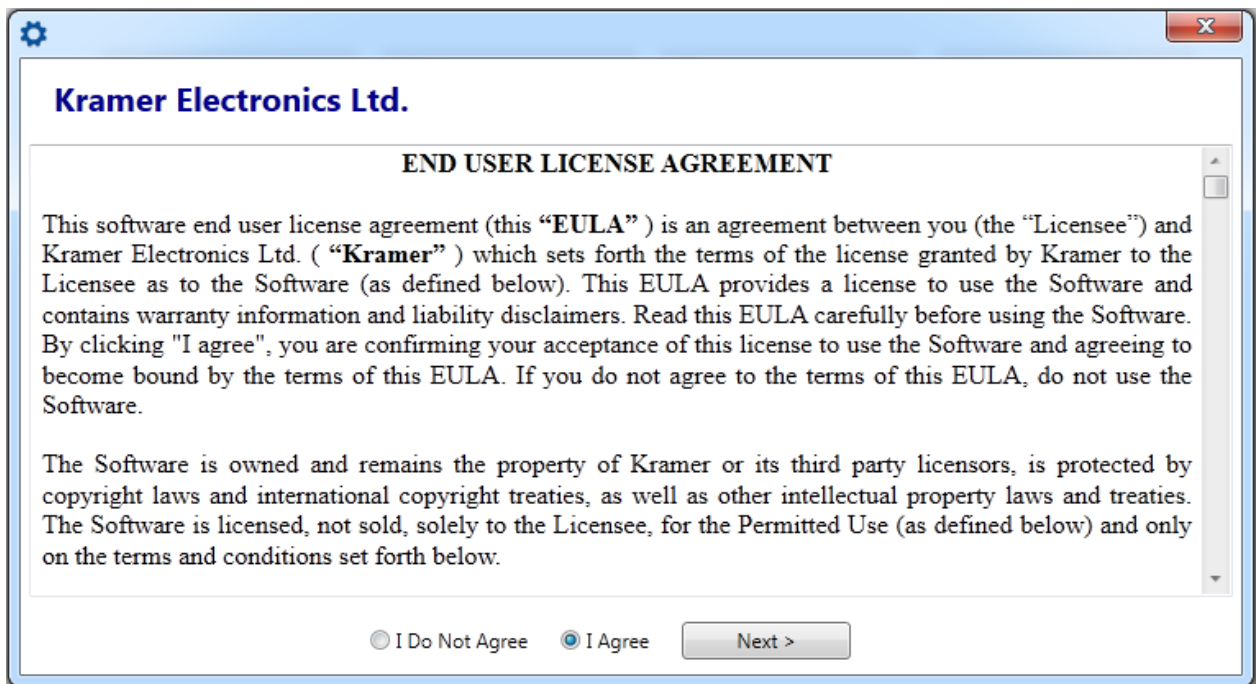

Figure 11: End User License Agreement
- The following window appears (see Figure 11):